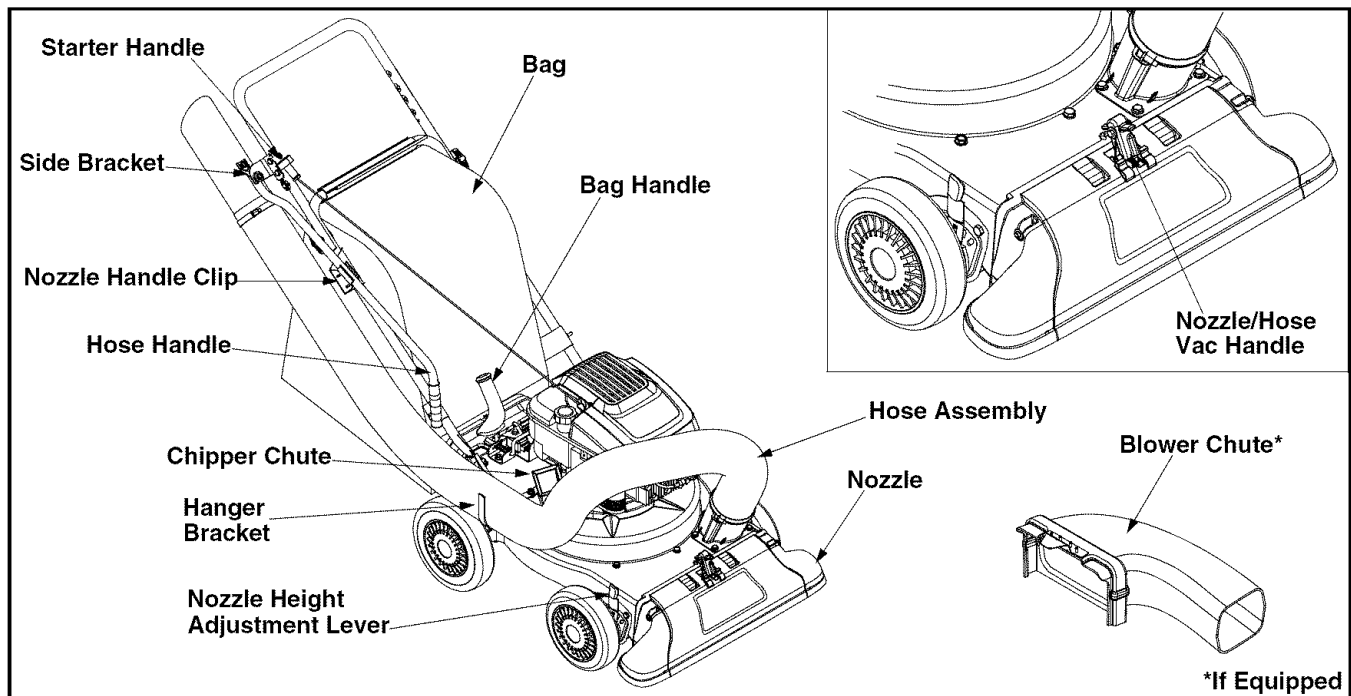

Figure 6
- Connect the hose handle near nozzle end of hose to the handle bracket on the upper handle. Refer to Figure 6.
- Snap hose handle into the nozzle handle clip on the lower handle to secure in place and lay hose tubing on side hanger bracket next to chipper chute. Refer to Figure 6.
Read this operator's manual and safety rules before operating your Yard Vacuum. Compare the illustrations in Figure 6 with your unit to familiarize yourself with the location of various controls and adjustments.
**Wheels:** Lubricate each wheel shoulder screw once a season with light oil. Refer to Figure 6.
**Nozzle height adjustment levers:** Lubricate the pivot points of the nozzle height adjustment levers once a season with light oil. Refer to Figure 6.
**Locking Rod:** Lubricate the locking rod with light oil to ease the application of attaching on or removing bag or blower chute (if equipped). Refer to Figure 6.
**Nozzle/Hose Vac Handle:** Lubricate the nozzle/hose vac handle on top of nozzle once a season with light oil. Refer to Figure 6.